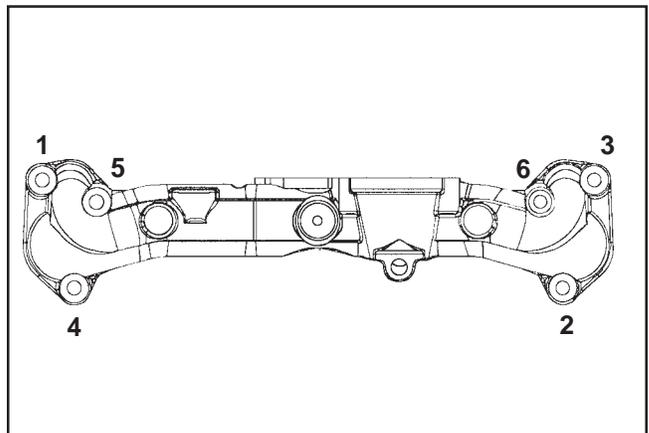

Figure 11-58. Intake Manifold Torque Sequence.
3. Set the intake manifold, with by-pass hose and wiring harness attached, down into position onto the gaskets and cylinder heads. Install and finger tighten the six hex flange screws in their appropriate locations. Make sure the clamps for the wiring harness are positioned on the long screw on each side. Torque the six intake manifold mounting screws in two steps: first to **7.4 N·m (66 in. lb.)**, finally to **9.9 N·m (88 in. lb.)** in the sequence shown. See Figure 11-58.